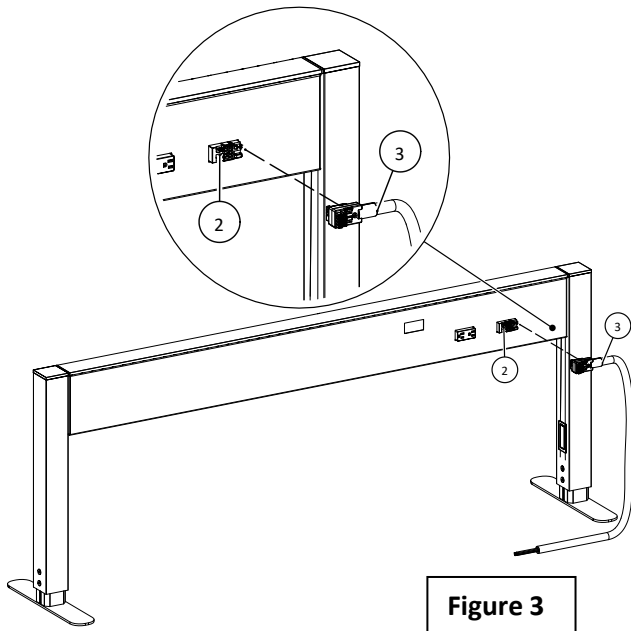

Figure 3
STEP 3: Plug in floor infeed (3) to floor infeed (2) and insert floor infeed (4) into the slot of floor infeed (3) to secure it in place, as shown in Figures 3 and 4.